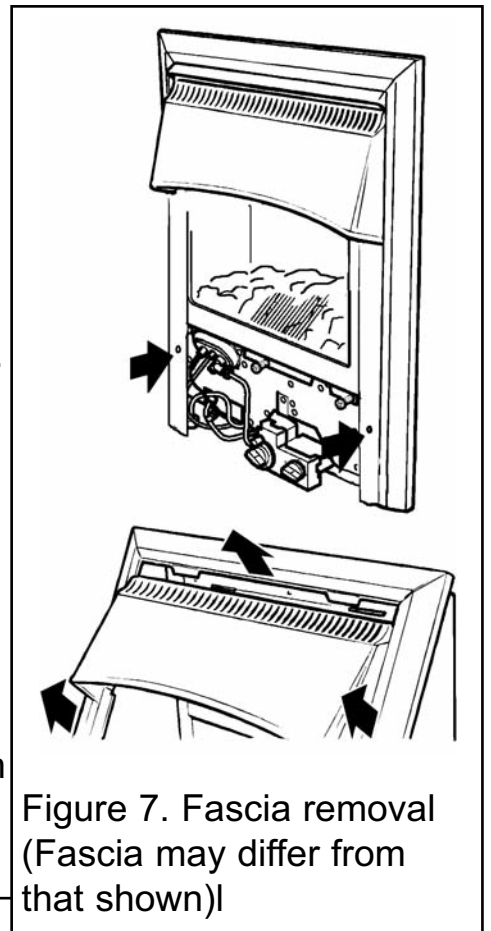

Figure 7. Fascia removal (Fascia may differ from that shown)
6.2.1 Fascia removal on the Decadent and Dream models (See figure 7).